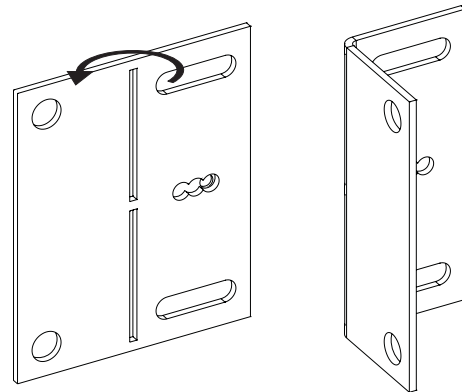

Figure 7
- Bend the nailing flanges 90 degrees as shown in **Figure 7.**